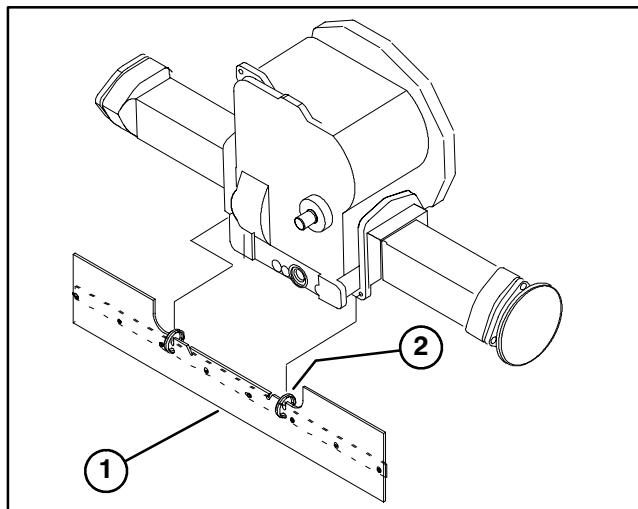

Figure 5
MOUNT REAR GUARD (Fig. 5)
- 1.** Hook guard rings into holes in front axle as shown in figure 5.